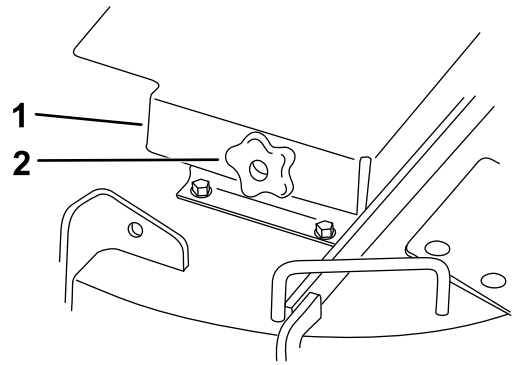
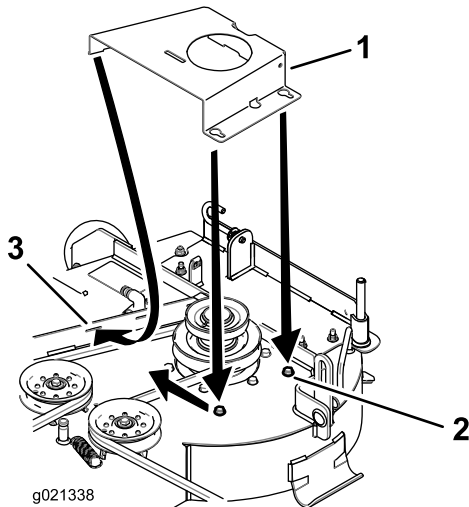

Figure 3
Figure 9
Note: This procedure is for only belt covers with knobs as shown in Figure 3.
1. Remove the knob and the belt cover from the mower deck (Figure 3).
2. Remove the bracket attached to the mower deck (Figure 3). Save the bolts to mount the metal-belt cover.
4. For the machines with belt-cover knobs (Figure 3), install the bolts used for the bracket. Refer to Figure 9 to use the bolt heads for the new metal-belt cover.
7. Slide the metal belt cover forward so the front tabs are in the slots and the bolt heads slide into the key slots (Figure 9).